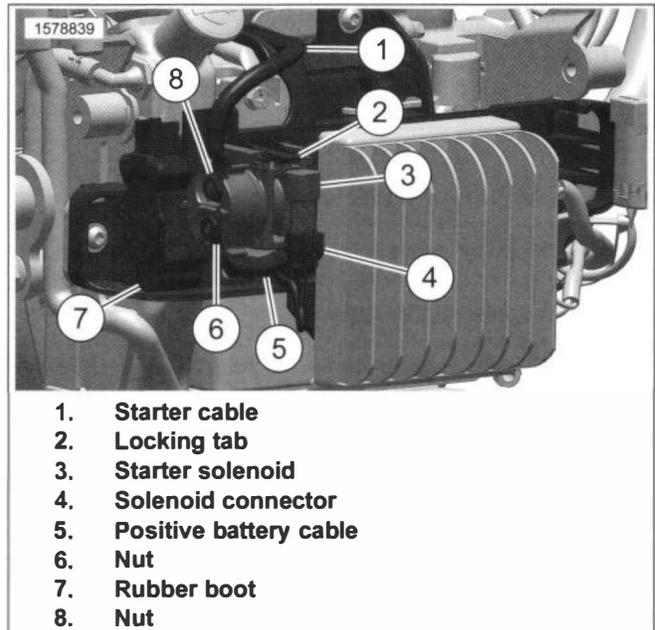

Figure 8-5. Starter Solenoid
1. See Figure 8-5. Remove starter solenoid (3).
- a. Disconnect solenoid connector (4).
- b. Lift rubber boot (7) remove nut (6) and positive cable (5) from starter solenoid.
- c. Release locking tab (2) and slide starter solenoid forward.
- d. Pull down on rubber boot (7) remove nut (8) and starter cable (1) from starter solenoid.
- e. Remove starter solenoid (3).
1. See Figure 8-5. Install starter solenoid (3).
- a. Pull down on rubber boot (7) install starter cable (1) install nut (8). Tighten.